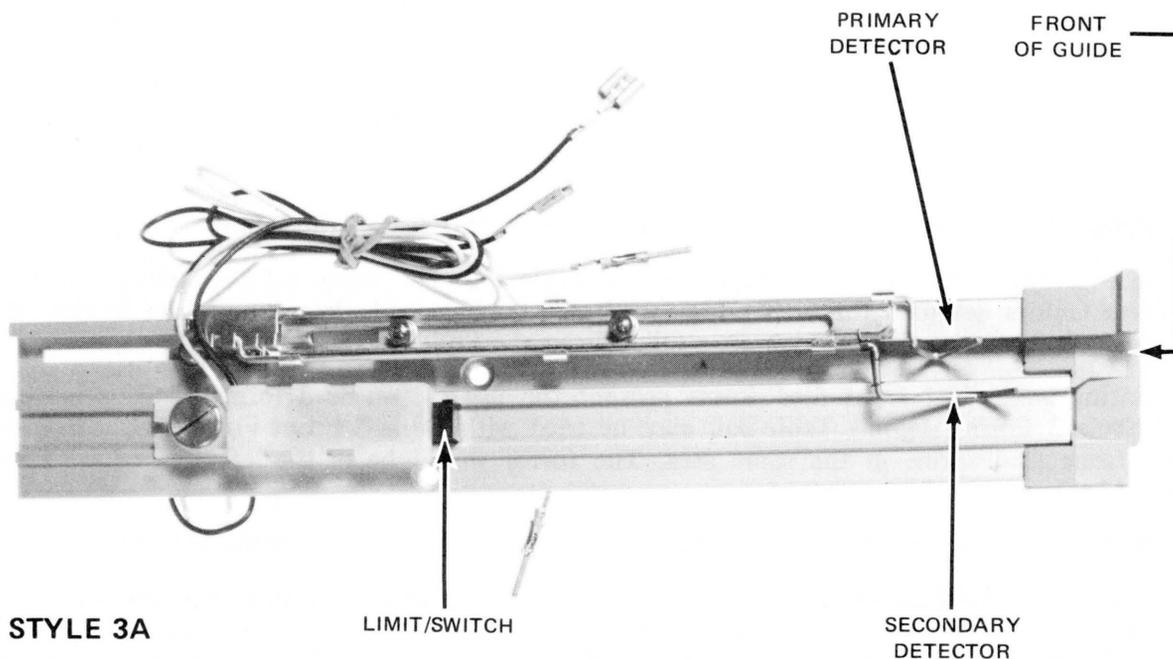

Figure 6.13.06-1 Passbook Limit and Center Fold Detectors
**NOTE:** The detectors in Figure 6.13.06-1 are set to provide for a by-pass of the center fold with two increments which is the factory standard for the assembly of this device, see Topic 6.13.07.
The center-fold detection is used to prevent the erroneous printing in the horizontal center-fold area of a passbook or to by-pass a minimum number of spaces in this area. Programming is required to actually accomplish the by-pass of the fold. A vertical center fold for a passbook is permitted instead of the horizontal, but the detectors are not applicable to the vertical fold. In addition to the Passbook Form Limit-Switch, the Style 3A rear guide includes the detectors for the horizontal center-fold area of a passbook, see Figure 6.13.06-1. Two detectors are present for this device, the primary and secondary detector. The detectors sense the back of the passbook to determine the presence or lack of a passbook in the passbook area. When the bottom edge of the passbook advances up past the primary detector a Flag of the "W" Group is turned on (set) provided the secondary detector is still in contact with the passbook. The flag is turned off (reset) when the bottom edge of the passbook advances past the secondary detector. The flag is turned off (reset) if both detectors sense the passbook or if the passbook is not present in the area of both detectors. The detector may be adjusted by a service representative for a by-pass of the center fold with one, two or three, 1/5" increments. The programming actually provides for the line advance based on the appropriate programming for the interrogation of the Flag setting. Usually the advance is accomplished by an instruction which advances one line and the instruction is re-executed based on the Skip and Execute instruction for the flag.